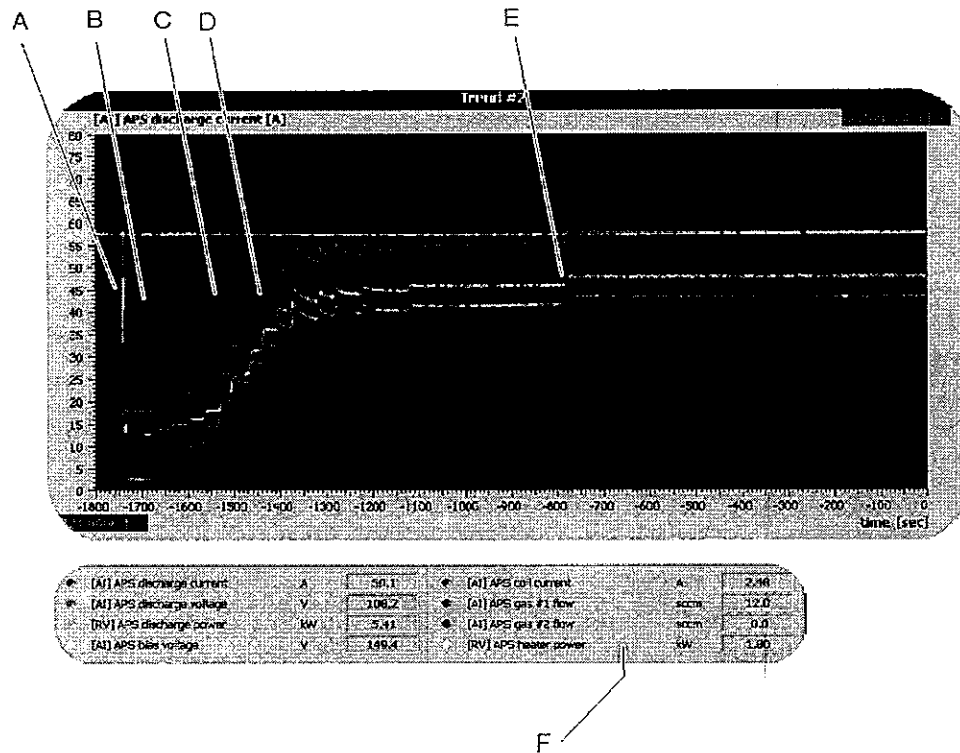

Fig. 7-22
- The <egeneration procedure is carried out by entering parameter values step by step and the respective stop phases. The order of the entry steps to be executed are listed in the table below Tab. 7-4, 95. The chronological sequence of operations of the entry steps and the process parameters can be monitored - exemplarily for SYRUSpro- on the screen <Trend> (see Fig. 7-22, 96).
5.2	<p>Minimise «gas flow #1» to 12 sccm (see Fig. 7-22, 96, pos. B)</p> <ul style="list-style-type: none"> <li>Wait until an «actual discharge voltage» of less than 100 V is displayed. Once this value is attained, proceed to the next entry.</li> </ul>
5.2	<p>Increase the «discharge current» to 20 A (see Fig. 7-22, 96, pos. C)</p> <ul style="list-style-type: none"> <li>Wait until an «actual discharge voltage» of more than 18 A is displayed.</li> <li>Wait until an «actual discharge voltage» of less than 100 V is displayed.</li> <li>Once this value is attained, proceed to the next entry step.</li> </ul>
5.6	<p>Increase the «coil current» in steps of 0.2 A (Fig. 7-22, 96/Pos. D)</p> <ul style="list-style-type: none"> <li>Wait until an «actual discharge voltage» of 100 V is displayed.</li> <li>Once the «actual discharge voltage» of 100 V has been reached, then wait until the value «actual bias voltage» has a value 15 V larger (ca. 115 V) than the value displayed for the «actual discharge voltage». Afterwards, wait approx. 15 minutes.</li> </ul>
5.9	<p>«Set the bias voltage» to 150 V and switch on APS &lt;controlled&gt; mode see (Fig. 7-22, 96 /Pos. E)</p> <ul style="list-style-type: none"><li>Enter the parameter value under «APS bias voltage» to 150 V and then switch over to the operating mode «controlled» under the function «APS plasma mode»</li><li>The specified bias voltage is now controlled by the coil current.</li><li>Afterwards, wait approx. 15 - 30 minutes.</li></ul>
Fig. 7-22, 96 shows exemplarily the monitor screen <Trend> of the SyrusPro plant control. The screen shows the visual progress (trend) of the parameter values during the regeneration procedure.